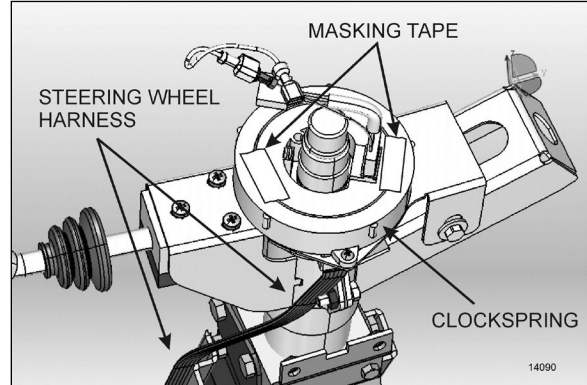

FIGURE 49: LOCKING THE CLOCKSPRING IN PLACE
7. Once the steering wheel is removed, it is important to block any rotating movement of the clockspring in order to prevent it from losing its neutral position. Use two pieces of masking tape to lock it in place (Figure 49).